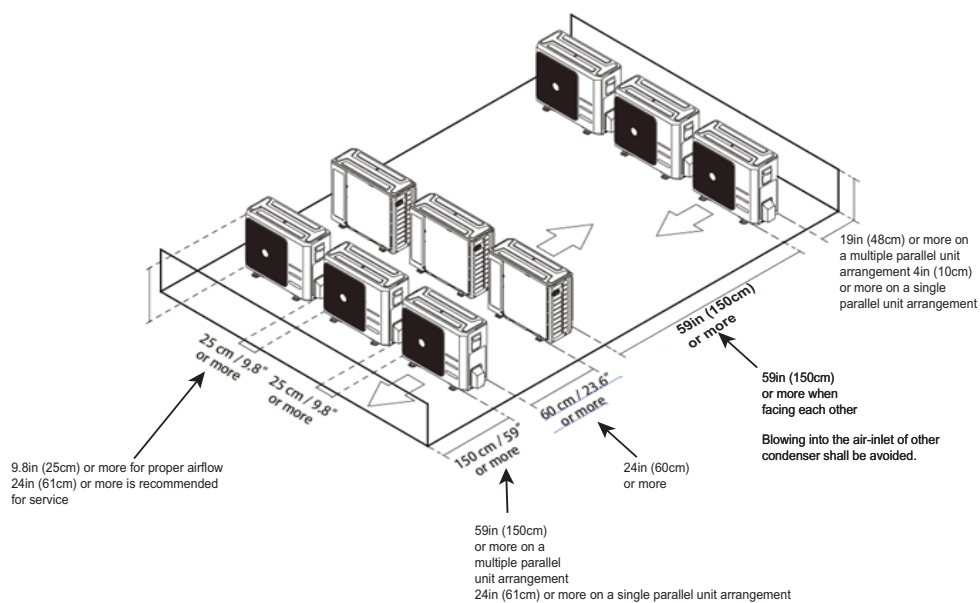

**Fig. 8 — Clearances**
- A location which provides appropriate clearances (see Fig. 8).
- Allow sufficient space for airflow and service of the unit. See Fig. 8 for the required minimum distances between the unit or walls.